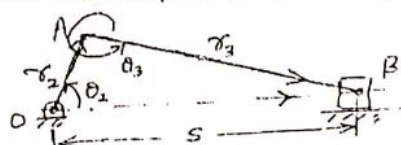

Fig.Q5(a)
- 5 a. For the slider crank mechanism shown in Fig.Q5(a), write (i) loop closure equation (ii) differentiate loop closure equation with respect to time to get velocity equation (iii) differentiate velocity equation with respect to time to get acceleration equation.
- b. In Fig.Q5(a), if $r_2 = 100\text{mm}$, $r_3 = 350\text{mm}$, $\theta_2 = 60^\circ$, find angular velocity and angular acceleration of connecting rod if crank rotates uniformly at 600 rpm in CCW direction. (12 Marks)